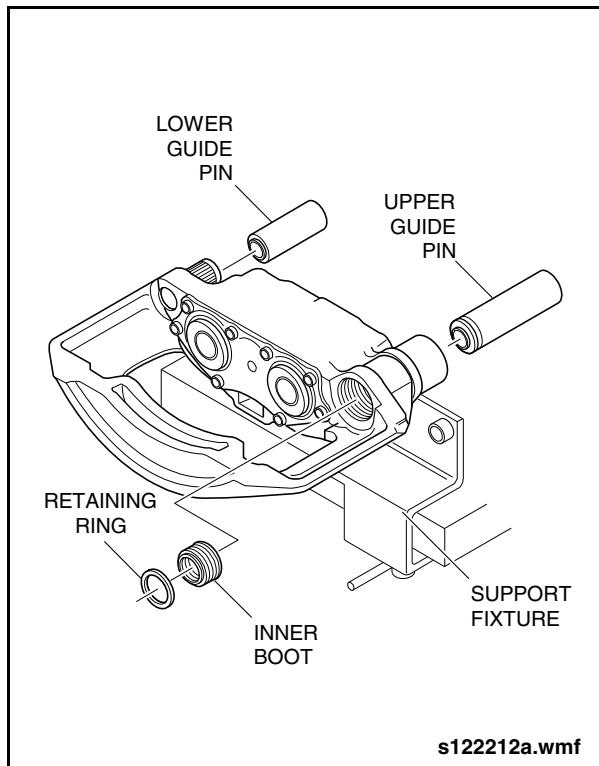

Fig. 2-124: Brake Caliper Guide Pin Removal
8. Remove the retaining ring from the rubber boot on the upper guide pin. See "Fig. 2-124: Brake Caliper Guide Pin Removal" on page 111.